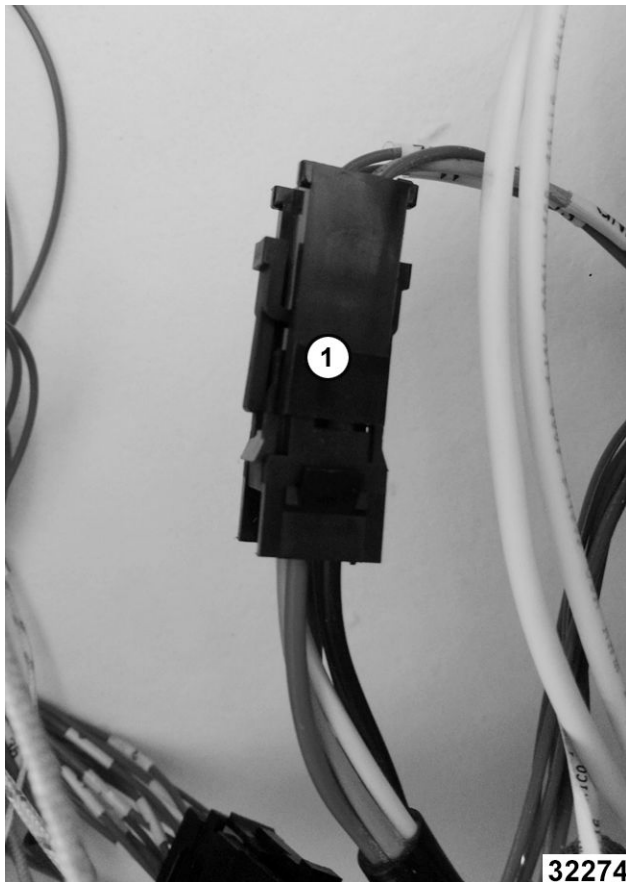

Fig. 30
2. Disconnect motor harness (1, Fig. 30).